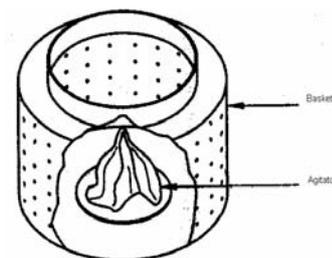

Fig.12.5 - Agitator washing arrangement
**Agitator wash technique:** An agitator which is long and cylindrical in shape is installed at the centre of the washing tub as shown in Fig.12.5. The water and clothes circulate around the agitator, thereby undergoing a through cleaning process. Not suitable for delicate fabric. This technique is used in Top loading washing machine.